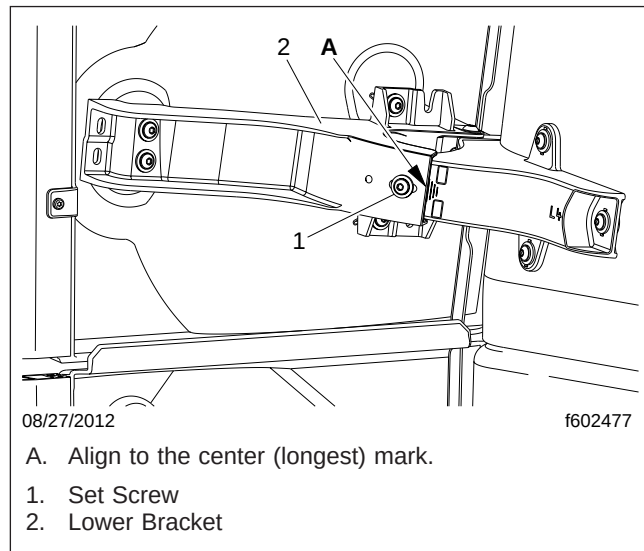

Fig. 3, Trim Tab Adjustment
5. Ensure that the set screws on both brackets are loose, then adjust the angle of the trim tab so that the adjustment feature on the lower bracket is set to the middle (longest) line; see Fig. 3. Tighten the set screws 80 lbf·in (920 N·cm).